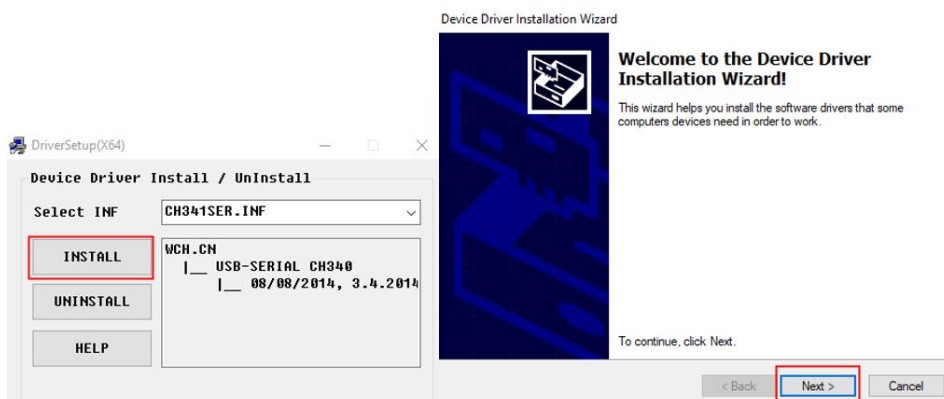

Figure 2.9 The Device Driver Installation Wizard dialog box
- Step 5** Click **OK** to follow the on-screen instructions to continue with the installation. During the installation, the Driver Installation dialog box is displayed, two drivers need to be installed, as shown in Figure 2.9.